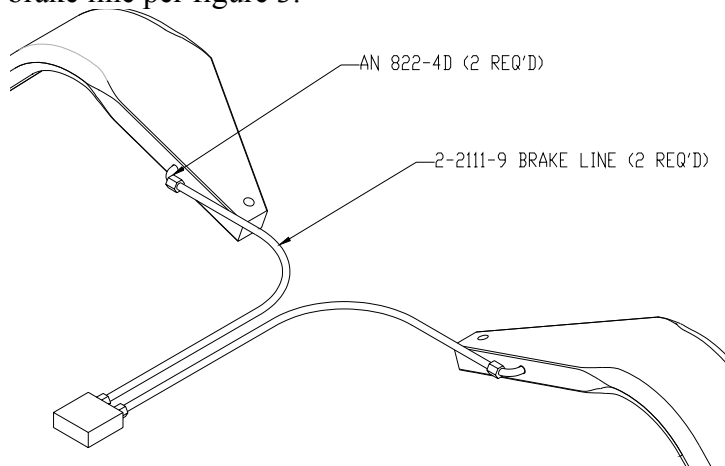

Figure 3, 2-2111-9 Brake Line Installation
- 12. Install 2-2111-9 brake line per figure 3.